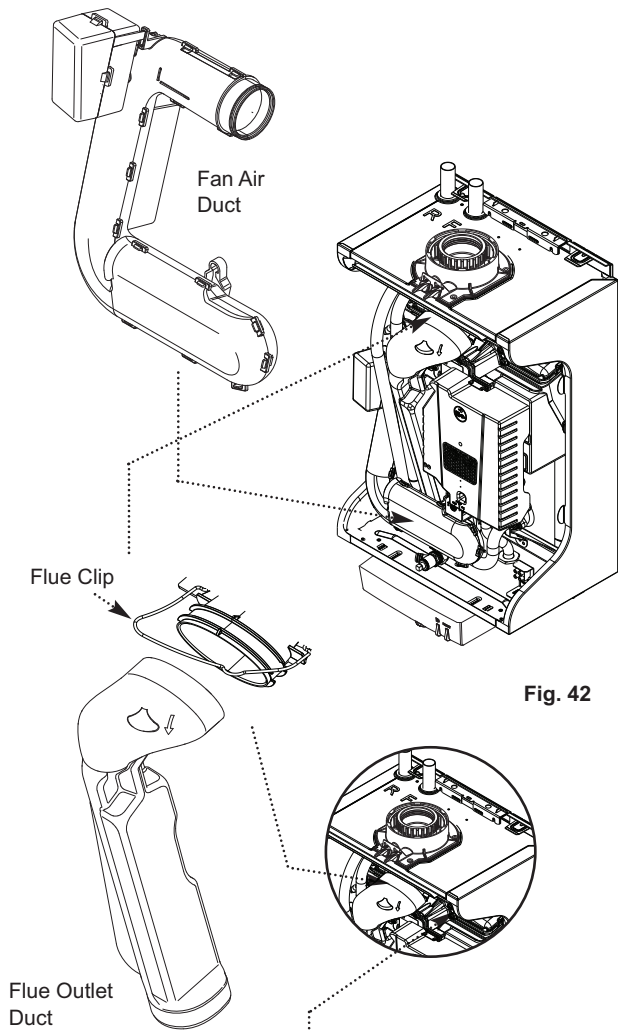

Fig. 42
10.3.4 Removal of Ducts (Fig. 42)